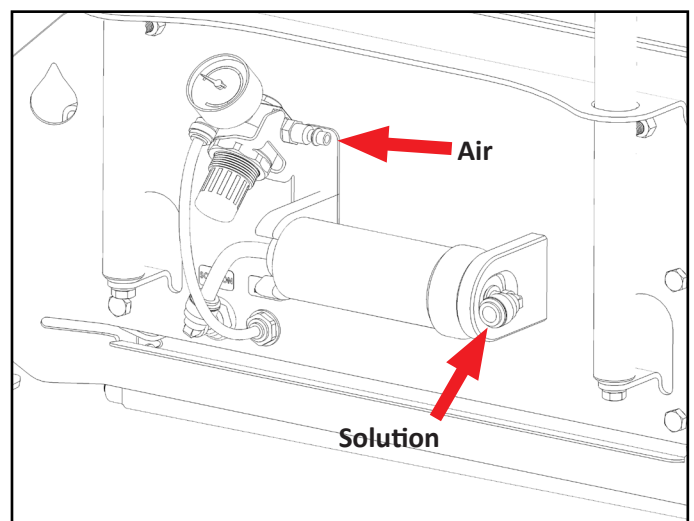

Fig. 6.3: Solution and air line quick fit connections
5. Using 1/4" industrial quick-disconnect, connect compressed air supply to the air regulator on the side of the unit (40 PSI recommended) [Figure 6.3].